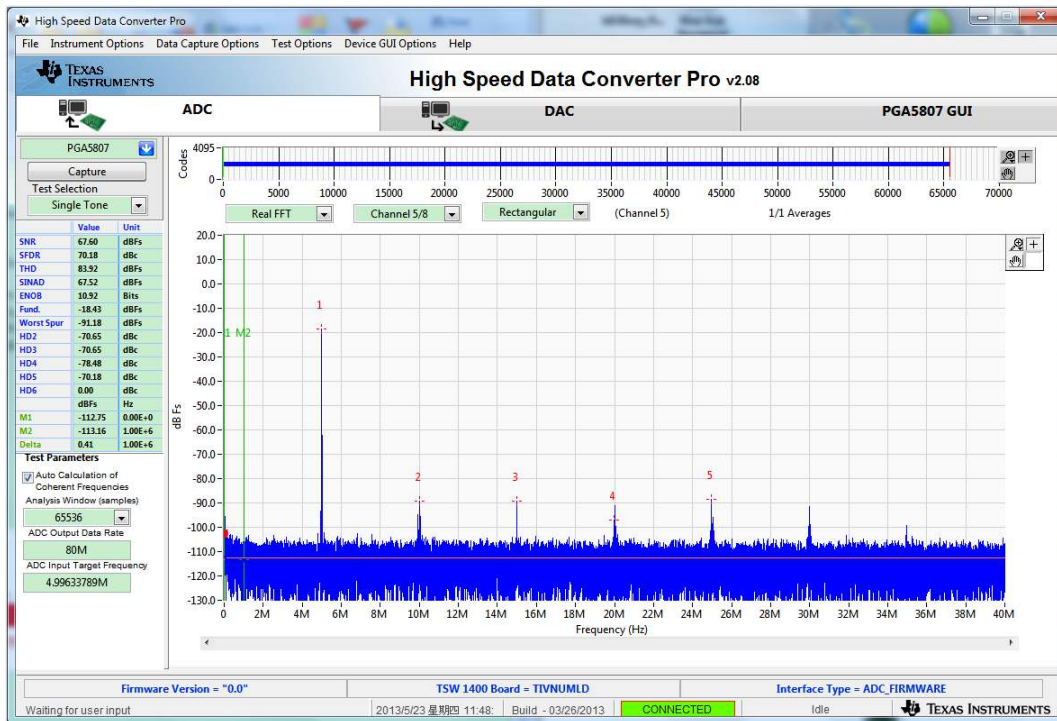

Figure 47. PGA5807A + ADS5296A Gain Test Capture 2
- Clicking on the *ADC* tab and pressing *Capture* results in Figure 47. Take the difference in the *Fund.* value shown here to the previous capture. This difference should equal the difference in *PGA_GAIN* values between the two captures, or 18 dB. In this example, the difference is 17.4 dB.